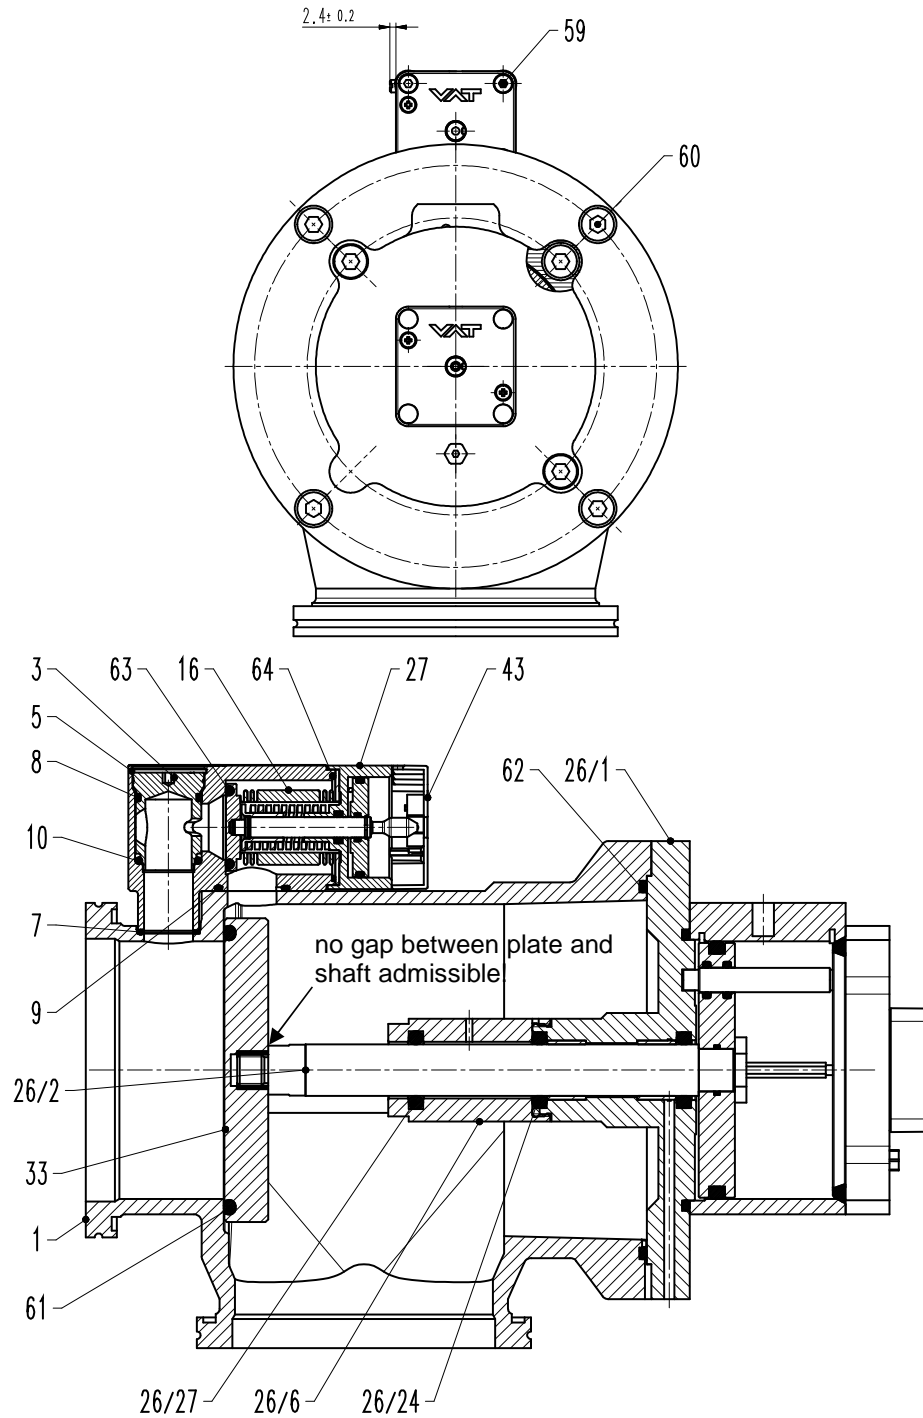

Figure 6-2
2. Remove O-rings (7) and (9) and discard them. The item number in brackets refers to «Figure 6-2».
The following item numbers in brackets refer to «Figure 6-2» on page 17.
The follow item numbers in brackets refer to «Figure 6-2» on page 17.
9. Apply 0.20 g vacuum grease on the thread of the actuator shaft (26/2) and screw the plate (33) to the actuator shaft.
There must not be a gap between the plate (33) and shaft (26/2); see «Figure 6-2» on page 17.